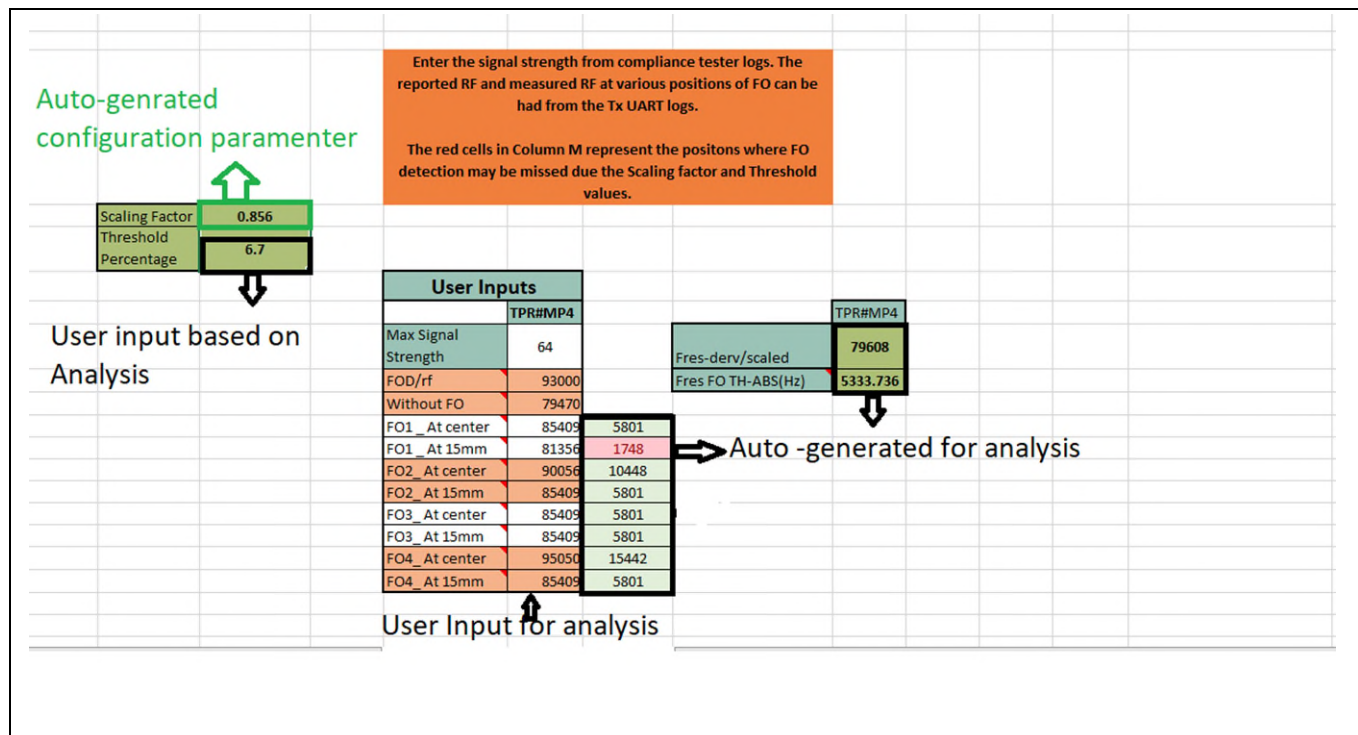

Figure 19 Reference view for resonance frequency measurements data
8. Repeat Steps 4, 5, and 6 for FO2, FO3, and FO4. Record the data in the respective FO rows (see Figure 19).
- Use the analysis in Figure 19 for reference while tuning the scaling factor and threshold tuning parameters. Tune the FOD threshold for resonance frequency to get the maximum coverage of FOD (the green color in Figure 19 indicates the FO detection).